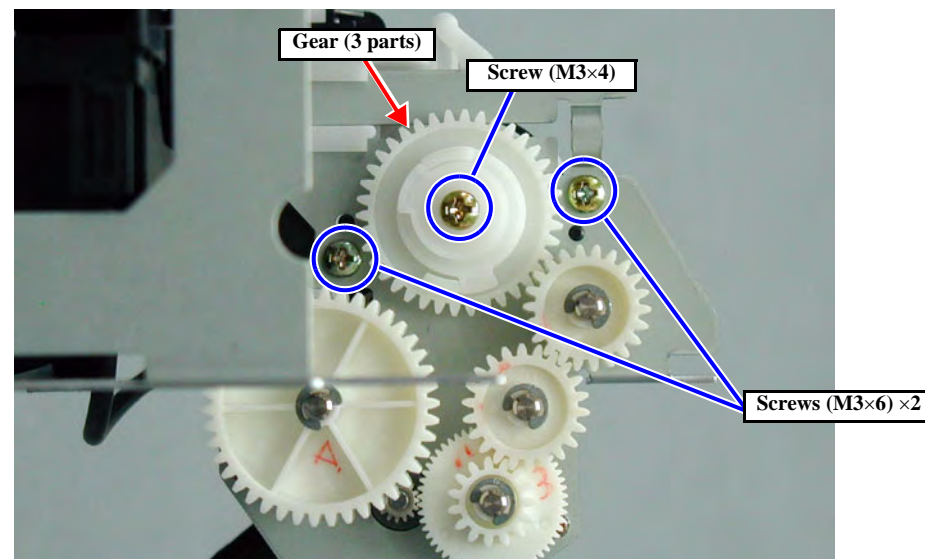

Figure 4-76. Removing the Pump ASSY 1/2
2. Remove the one central screw (M3×4) of the Pump ASSY and remove the three parts including the gear. (See Figure 4-76)